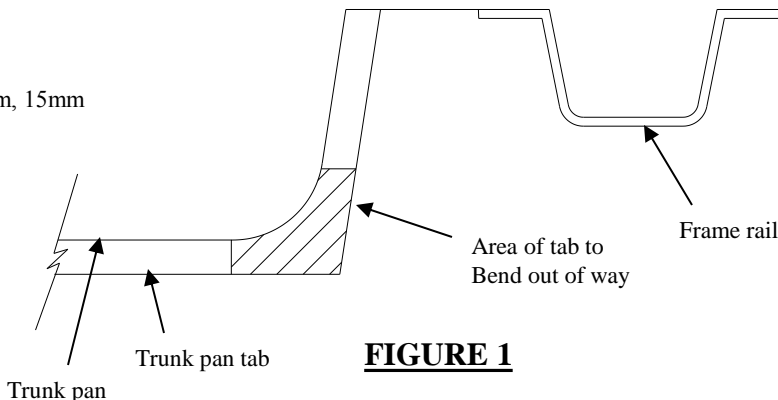

FIGURE 1
3. Drill one (1) 7/16" hole from under the vehicle up thru the center of each frame extension flange as shown, 2" forward from end of frame extension. Be careful not to tear carpet.
4. Using hole drilled in Step 3, center reinforcement plate in vehicle trunk and use as a template to drill three (3) remaining holes per side.
5. Install four (4) 7/16" carriage bolts thru reinforcement plate, trunk pan, and frame flange. Install flat washer, lock washer, and nut as shown.
8. Raise hitch into position as shown, being careful not to push fasteners back into frame. Loosely install conical toothed washer and nut on both forward attachments. **Note:** Bend trunk pan tabs to eliminate interference, as shown in Figure 1.